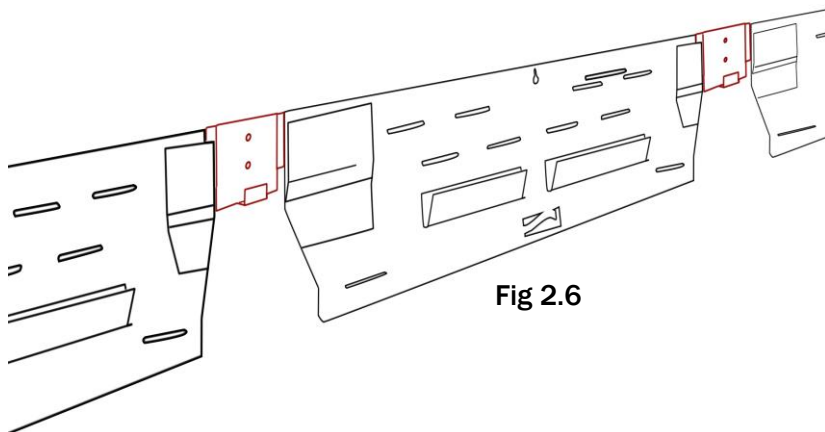

Fig 2.6
11. Once you have completed attaching the Bracket Spacer/ Trim Strip Hanger (O) to the wall on each side of the center Wall Bracket (B) you will complete steps 3-9 again to mount the 2 additional Wall Brackets (B) and 2 Reservoir Brackets (D). These brackets will be installed to the left and the right of the center bracket (Fig 2.6) Make certain the Wall Brackets are installed butted up to the Bracket Spacer/Trip Strip Hanger (O) and all are level horizontally. You may wish to use the Bracket Template (A), your level and a pencil to draw a horizontal line to the left and right of the center bracket top to insure all three Wall Brackets and Spacers are mounted level. The same applies to the reservoir brackets; they too must be level horizontally to each other.